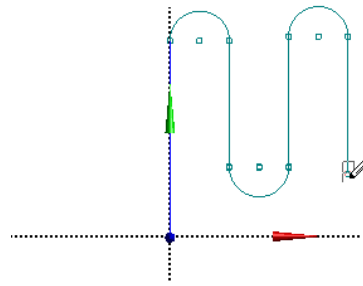

Figure 3-71 Specifying the endpoint of the line
31. Move the cursor downward; the preview of the line will be displayed. Also, the symbol of Vertical constraint (V) gets attached to the preview. After moving the cursor to some distance, click to specify the end point of line; line 4 is drawn, as shown in Figure 3-71.